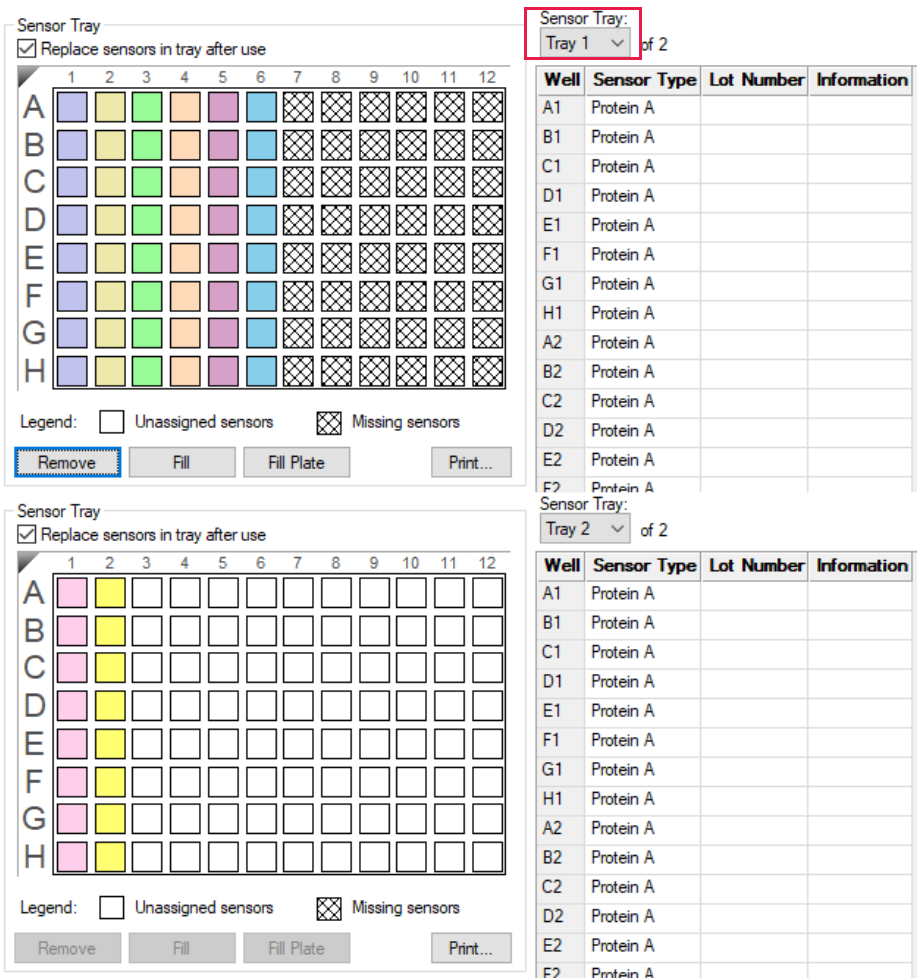

Figure 6-49: Example Assay Using One Partial Biosensor Tray and Biosensors from a Second Tray
2. To view the additional biosensor tray that is required for the assay, select Tray 2 from the **Sensor Tray** drop-down list (Figure 6-49). In the example shown, Tray 1 is a partial tray that does not contain enough biosensors for the assay. To designate a second tray, select Tray 2 from the **Sensor Tray** drop-down list (Figure 6-49, top). The **Sensor Tray Map** will then display the additional biosensors required for the assay (Figure 6-49, bottom).